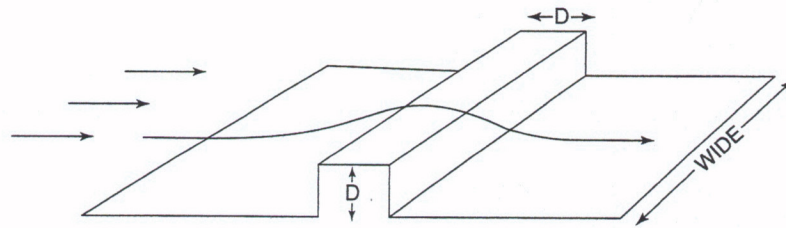

Figure 10.18
16. Using a numerical simulator [5, 27], calculate the velocity field for flow over the bump shown in Figure 10.18. Assume two-dimensional steady flow of an incompressible Newtonian fluid. Make your calculations in the creeping-flow regime.